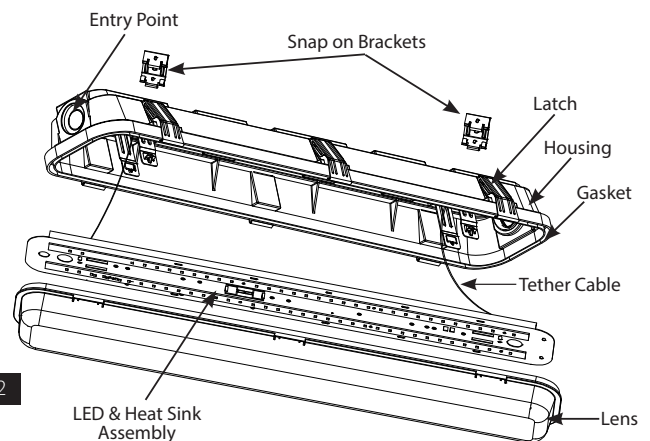

Fig: 2
3. Unlatch the **Lens** from **Housing** as shown in Fig. 2.